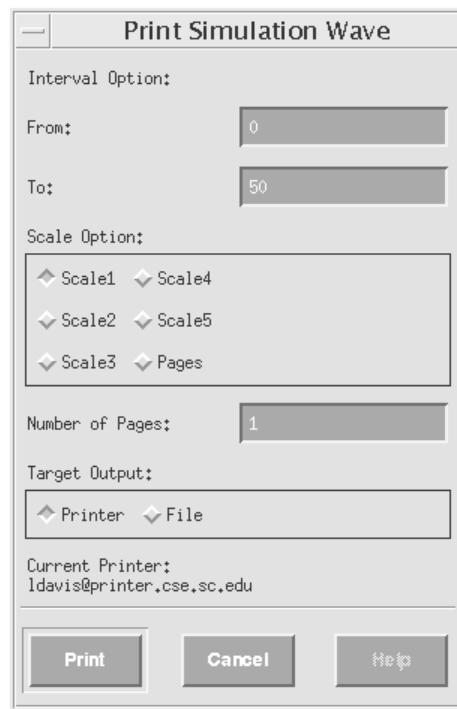

Figure 12. Waveform print dialog box.
- (7c) print your waveform, using the dialog box accessed from the Wave Viewer (the “piece of paper” icon on the tool panel of the Wave Viewer). This dialog is shown in Figure 12. Each time you simulate, you'll want to rename the “HW01.wav” file created after each simulation run and written into your working directory. Each waveform for each test will need to be printed out.